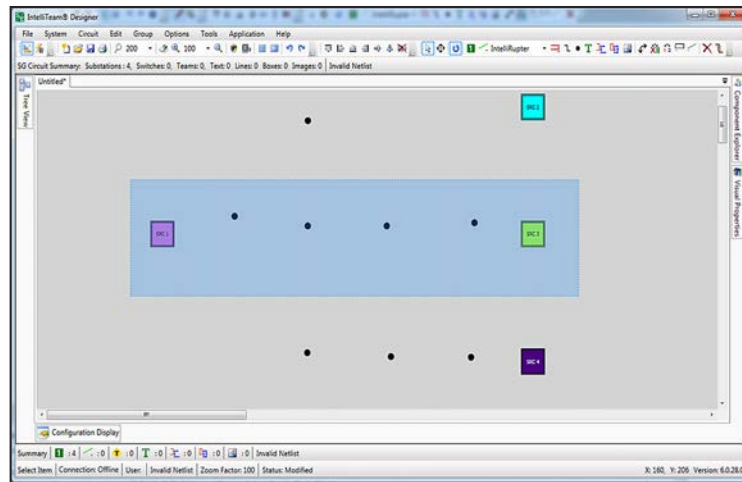

Figure 40. Align the wire connection points between SRC 1 and SRC 3.
- STEP 5.** In the screen shown in Figure 40 on page 61, all connection points are just above the center line. Depending on their relationship, use the Align Bottom tool or the Align Top tool to center the wire connection points on the two selected sources. This action aligns the source termination points with the wire connection points. Remember that the **Select Item** button must be clicked first before any alignment or spacing will occur.